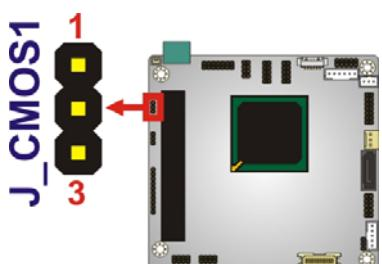

Figure 4-4: Clear BIOS Jumper Location
**Jumper Location:** See Figure 4-4